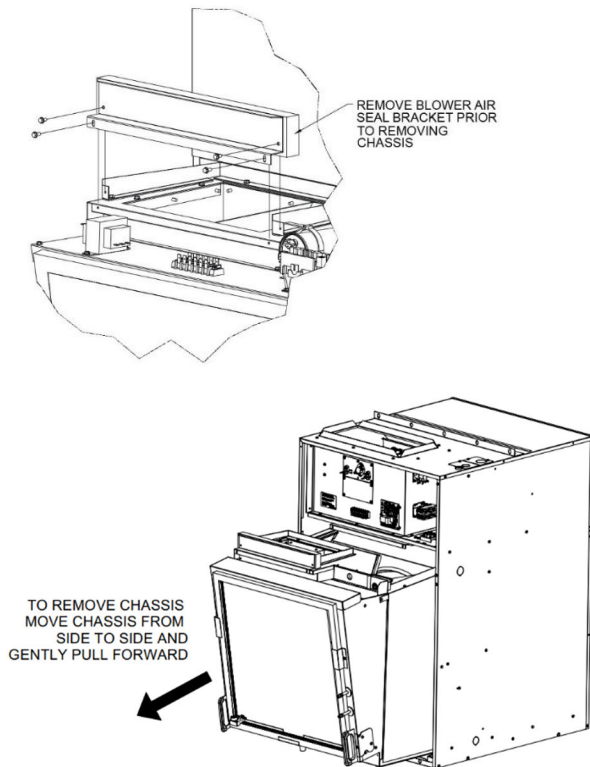

FIGURE 33 – Slide Out Cooling Chassis
- 4) Slide-out cooling chassis. FIGURE 33–Slide Out Cooling Chassis.